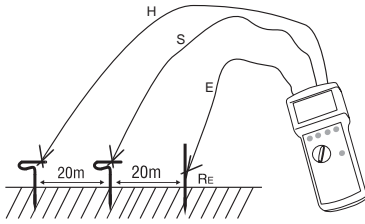

Figure 4: three-wire measurement
- ▶ Locate earth rods for auxiliary ground, probe and ground, in one line if possible, as described in figure 4. The layout can also be realized by triangular shape. Distance between probe and earth, or probe and auxiliary earth must be at least 20 m. The test leads should not be parallel to each other and should not cross to avoid couplings.
- ▶ Connect test leads to earth rods acc. fig. 4.
- ▶ Select "3 pole" measurement by using measurement selection switch (13).
- ▶ Set contact voltage (11) by using key "UL" (14).
- ▶ If required choose manual frequency selection by using key "auto/man" (16), and select test frequency with key "f1/f2" (12).
- ▶ Press key "Start" (14)